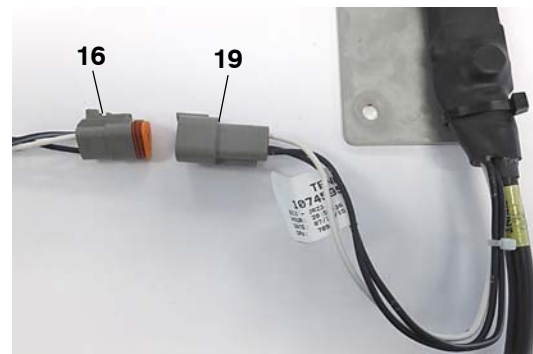

Fig. 10
11. Plug the shunt telemetry harness (19) into the main telemetry harness (16). (Fig. 10)